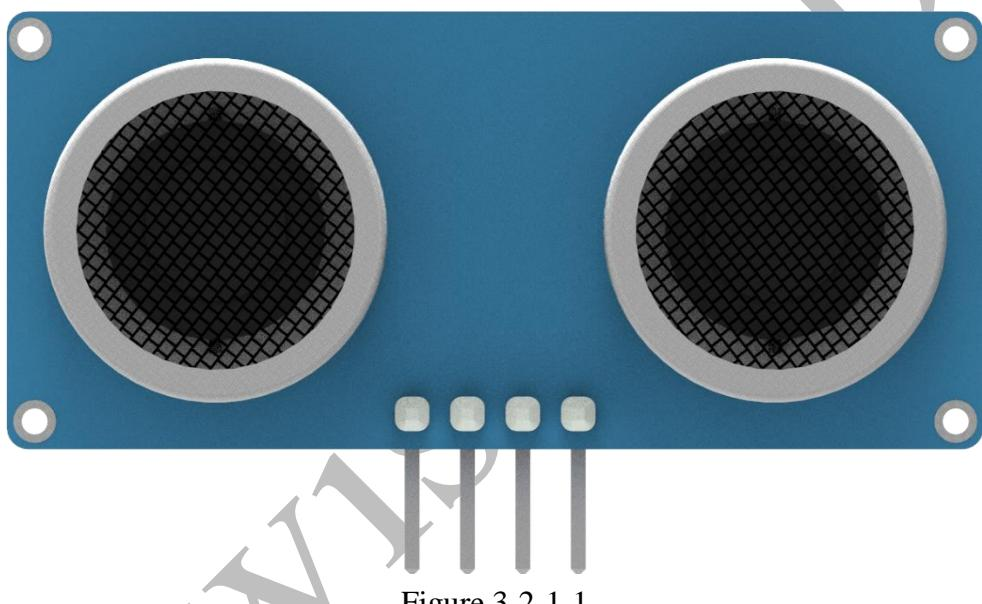

Figure 3-2-1-1
Ultrasound sensor (Figure 3-2-1-1) is a device that detects distance by transmitting ultrasound. Ultrasound is an inaudible sound wave, which has the characteristics of returning when it touches an object. Ultrasound sensor has two "eyes", one of which emits ultrasound, and the other "eyes" receives the ultrasound emitted from obstacles. When one eye emits ultrasound, it begins to time, and when the other eye receives the returned ultrasound, it stops the time. Mathematically, we have learned that $\text{distance} = \text{speed} * \text{time}$, then the distance is measured by ultrasound.= The speed of the ultrasonic wave (2) so that the distance can be calculated.